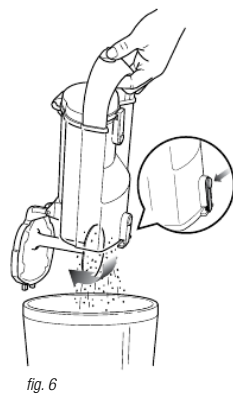

fig. 6
- 3 Holding the carry handle, place the dust cup inside a trash receptacle and press the lower dust cup door release button. Gently tap the dust cup to dislodge and release dust and debris. (fig. 6)